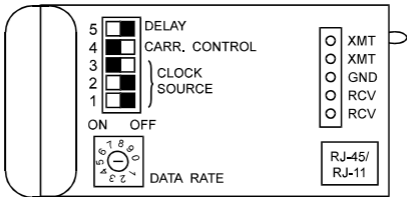

Figure 3. SRM-55C Jumper Diagram
3. Jumper the modem according to the Jumper Diagram (*Figure 3 or 4*) and the Jumper/Switch Selection Table (*Table 3 or 4*).